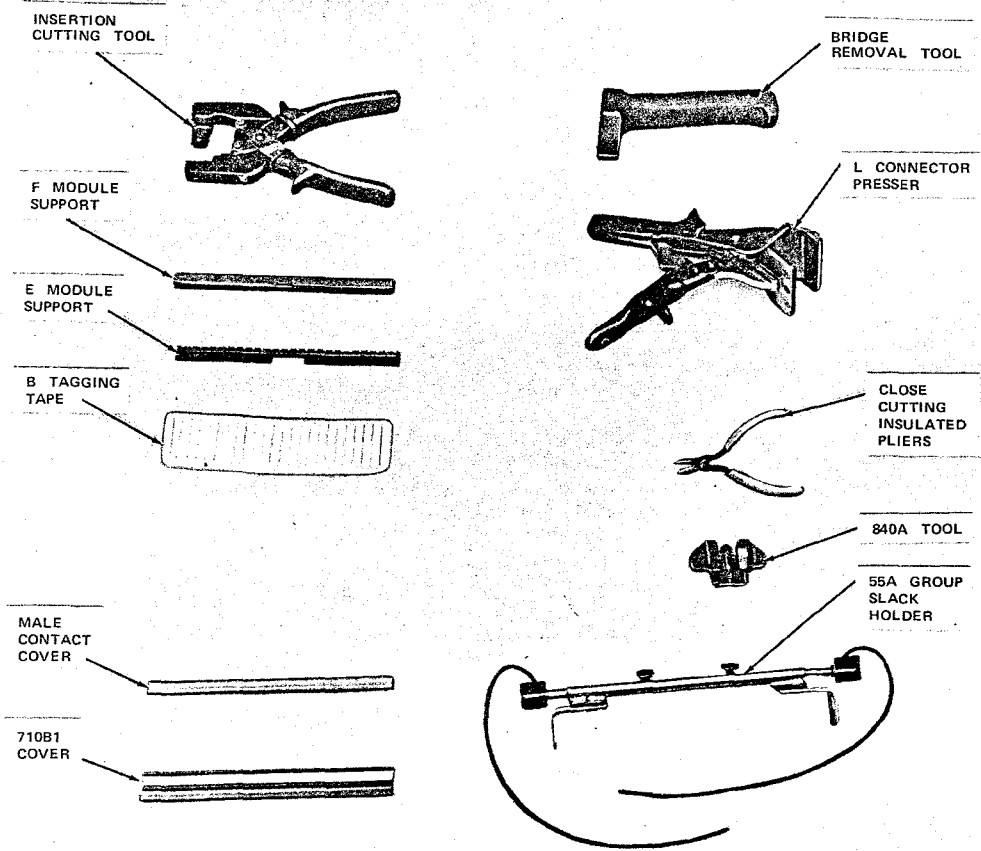

Fig. 40—Hand Tools and Accessories
4.49 The following hand tools and accessories (Fig. 40) are also used in conjunction with 710 system.